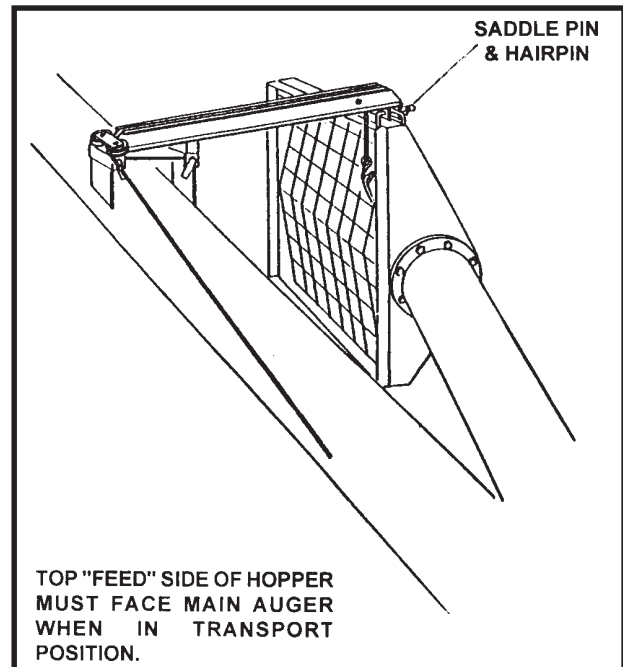

Figure No. 37
3. Ensure that the intake feed hopper is raised into transport position and secured with saddle pin and hairpin (see **Figure No. 37**). DO NOT OPERATE AUGER WITH INTAKE HOPPER IN TRANSPORT POSITION. THIS WILL DAMAGE THE U-JOINT.
INTAKE FEED SIDE OF HOPPER MUST FACE MAIN AUGER WHEN IN TRANSPORT (see **Figure No. 37**).